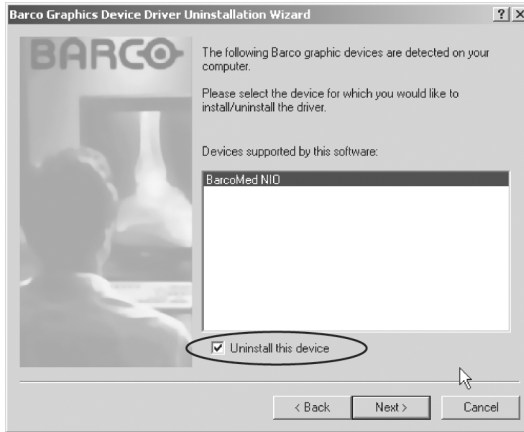

Figure 47
5. On the next screen (see figure 47 on page 112), **check** the checkbox next to "Uninstall this device" and click **"Next"** to continue.